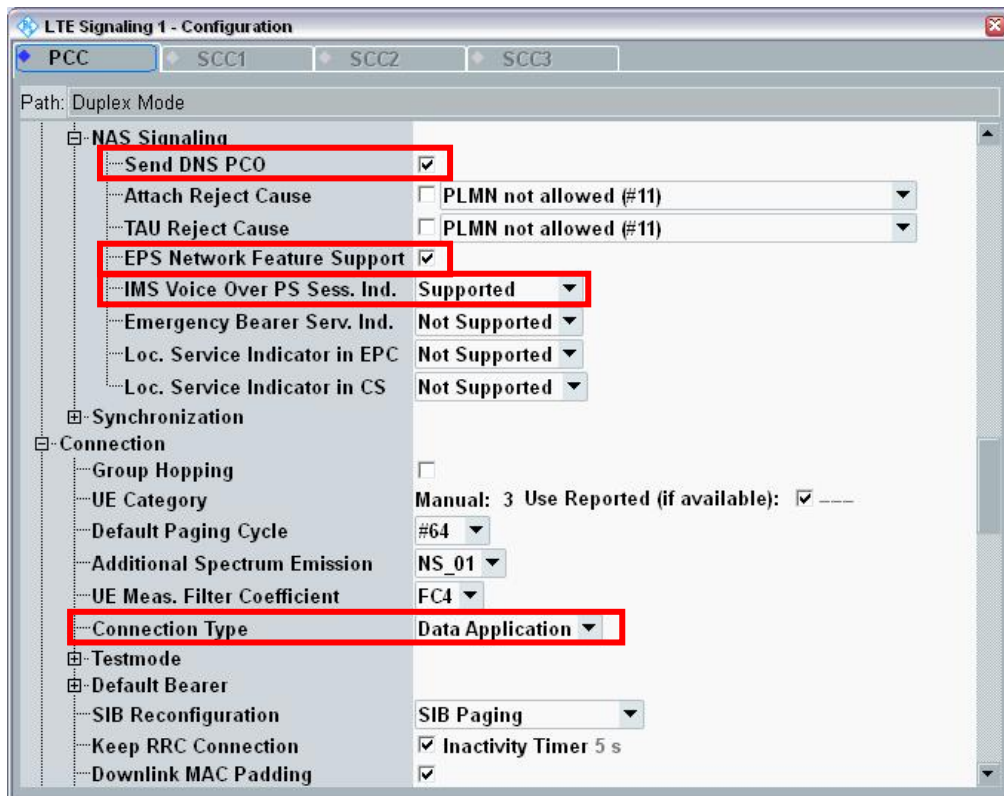

Figure 17: NAS Signaling and Connection
7. Enable the **Send DNS PCO** and **EPS Network Feature Support** in the menu **NAS Signaling** (see Figure 17).
8. Set the **IMS Voice over PS Sess. Ind.** to **Supported** in the menu **NAS Signaling** (Figure 17).
9. In the menu **Connection**: Set the **Connection Type** to **Data Application** (Figure 17).